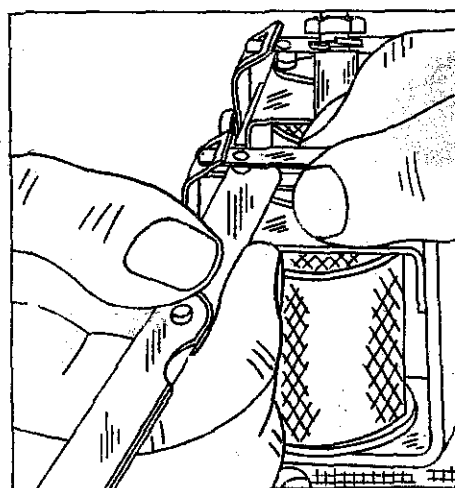

FIGURE 78
6. Check contact gap with the armature against the stop pin. Figure 78.
11. Check contact gap with the armature against the stop pin. Figure 78.